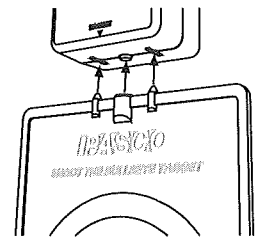

Figure 3: Key the protrusions on the target into the holes in the drop box
5. Hang the target from the magnet on the underside of the drop box. Key the protrusions on the target into the holes in the drop box on either side of the magnet (as shown in Figure 3).